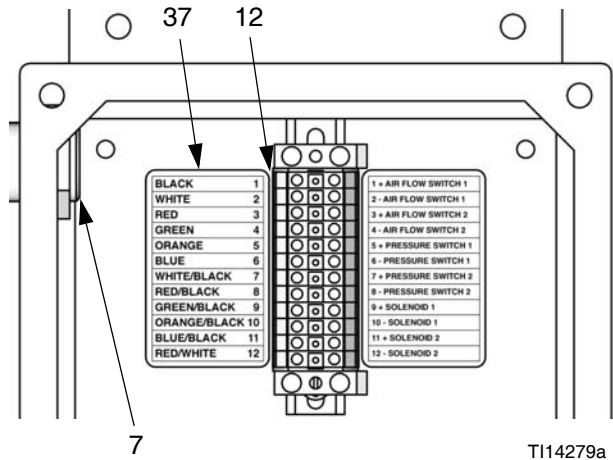

FIG. 2. Connect Cable to Terminal Strip
2. The cable (23) has bare wires at both ends. Thread the shortest end (4 in. [102 mm]) into the enclosure through the strain relief bushing (7). See FIG. 2.
3. Connect the cable wires to the left side of the terminal strip (12), as indicated by the label (37). See FIG. 2 and Table 1.